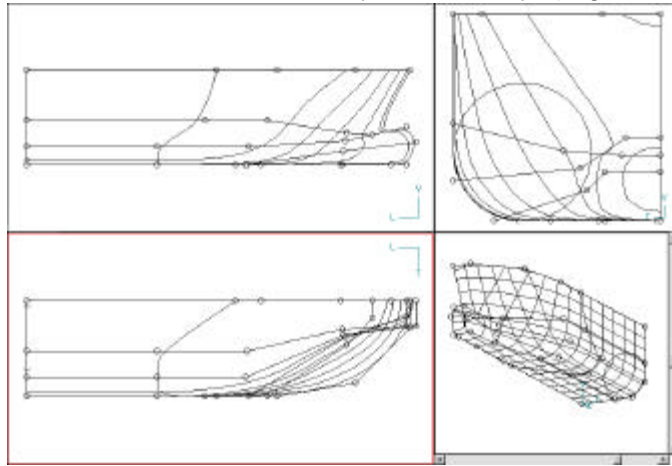

Figure 2-16: Fairing the forward sections
5. In *Side*, *Top* and *Front* view, arrange the points of column 2 and 3 to fair in the forward sections. Remember not to move column 2 vertices transversely or vertically. (Figure 2-16.)